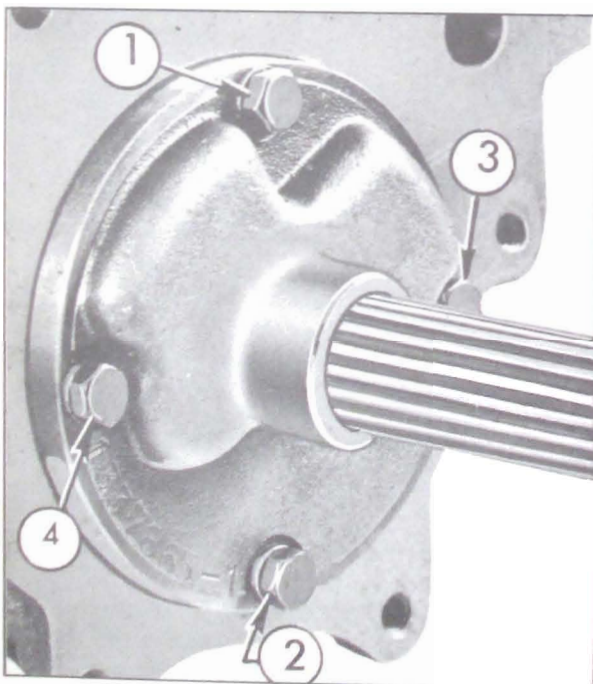

Figure 5-113—Pump Bolt Tightening Sequence - Installation of Ratchet Wheel
4. Install pump bolts with lockwashers, tighten evenly to 5 ft. lbs. torque in sequence shown in Figure 5-113, then tighten in same sequence to 25-30 ft. lbs. torque.